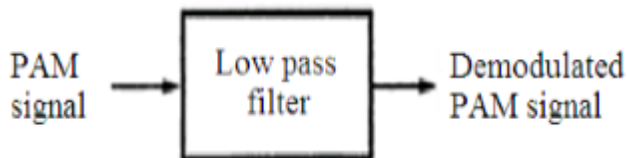

Fig3. PAM detector
- For Demodulation of the Pulse Amplitude Modulated signal, PAM is fed to the low pass filter as shown in Fig3 below.